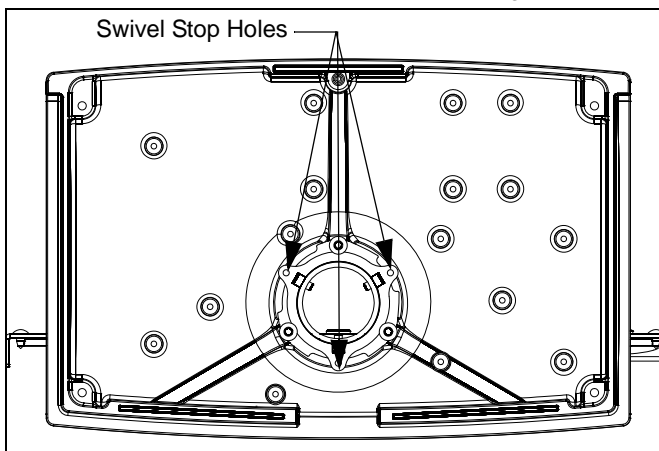

Figure 7
2. Insert a 10-24 x 1/2" screw (not provided) in one of the three swivel stop holes in the stand base. (See Figure 7)